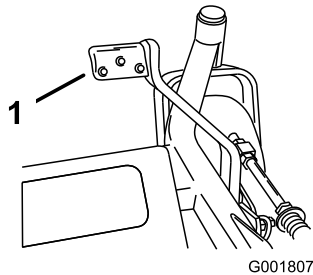

Figure 29
2. Press on the lift-assist lever while pulling up on the height-of-cut lever (Figure 29).